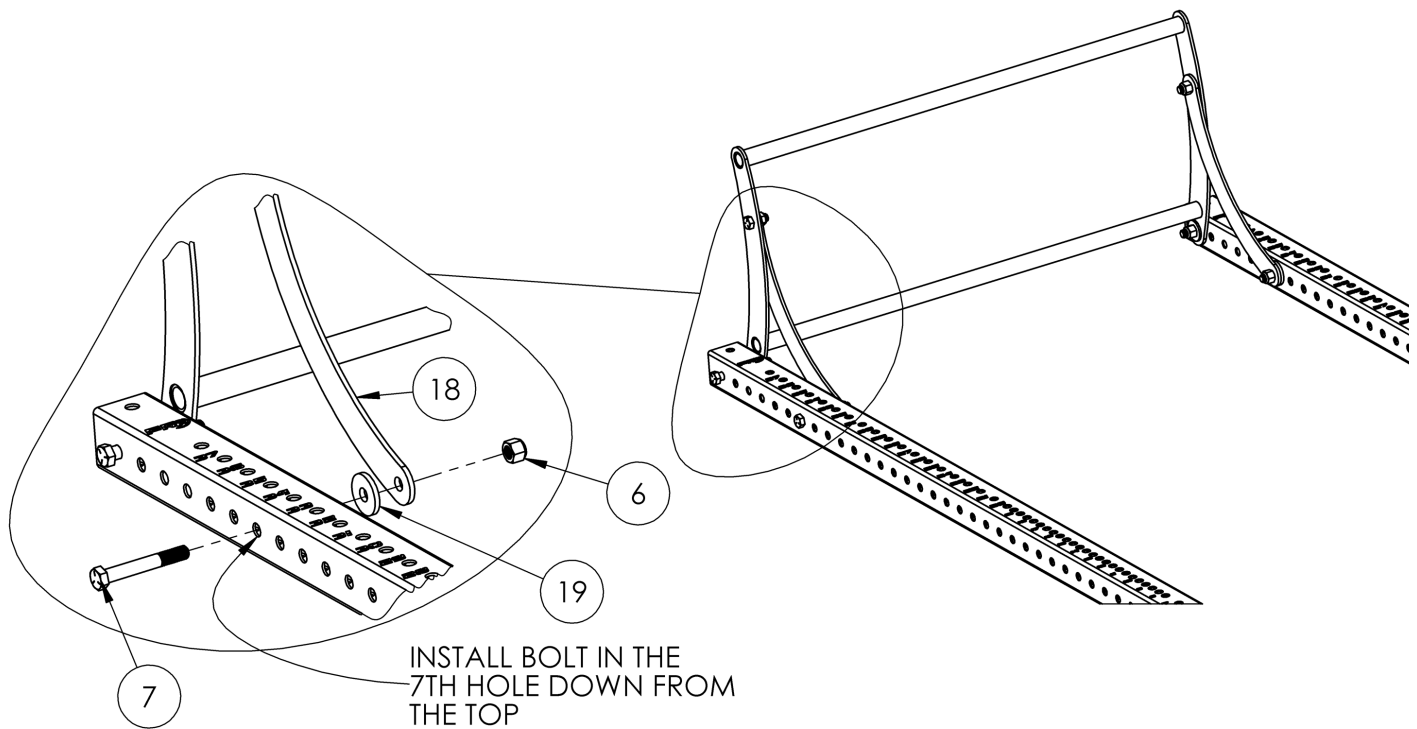

Figure 8: Attaching the Kipping Bar Arms to the Uprights
1. Rotate the kipping bar 90 degrees until the kipping bar is in a similar position (**Figure 8**) and the holes in the kipping bar arms align with the sixth hole from the top of the uprights.
2. Using the 4-1/2" hex head bolts (7), and 5/8" lock nuts (6), attach the kipping bar arms to the uprights (**Figure 8**). Make sure to position the plastic kipping bar spacer (19) between the upright and kipping bar arm on both connections (**Figure 8**).
3. Fully tighten both bolts attaching the kipping bar arms (18).